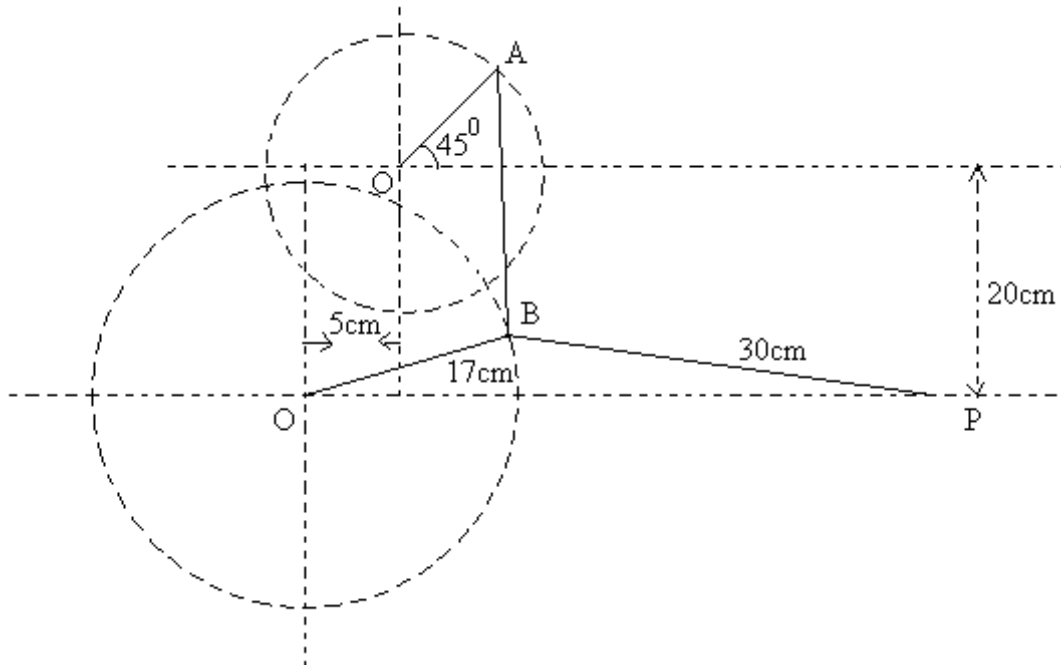

Figure 2:
3. For the configuration of the mechanism shown in Figure 2, Determine the velocity and acceleration of P and the angular velocity and angular acceleration of BP when OA is rotating at 180rpm with an angular acceleration of 50 radian/sec^2 . P is constrained to move in horizontal direction.